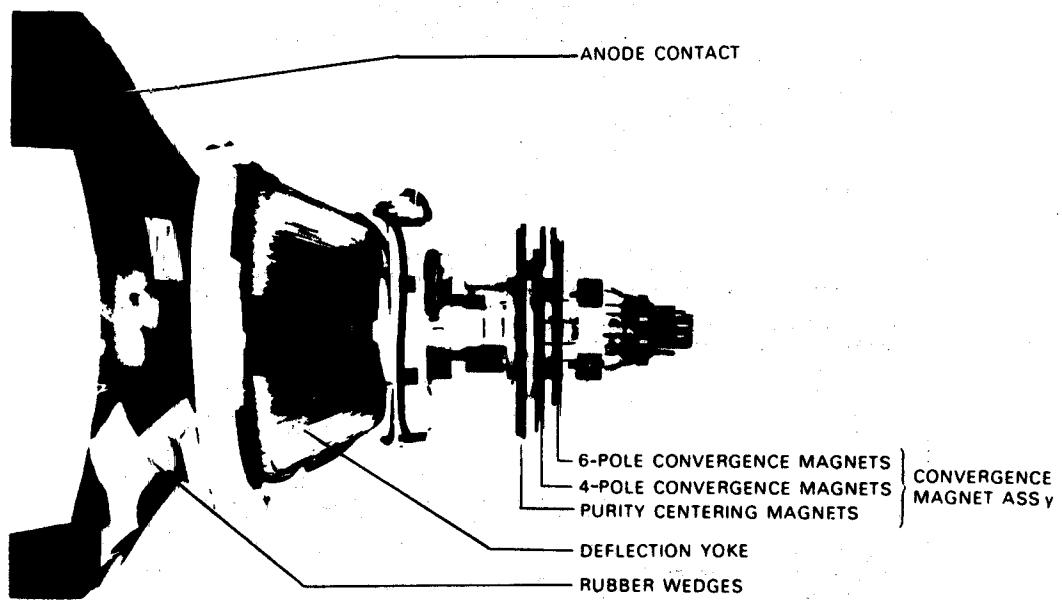

Figure 6
3.2 A pair of 4-pole convergence magnets is provided to converge the blue and red beams (see Figure 6). When the pole opens to the left and right 45° symmetrically, the magnetic field is maximized. Red and blue beams move to the left and right (see Figure 5). Vary the angle between the tabs to adjust the convergence of red and blue vertical lines.
3.4 A pair of 6-pole convergence magnets is provided to converge the magenta (red + blue) to the green beams (see Figure 6). When the pole opens to the left and right 30° symmetrically, the magnetic field is maximized. Red and blue beams both move to the left and right (see Figure 5). Vary the opening angle to adjust the convergence of magenta to green vertical lines.